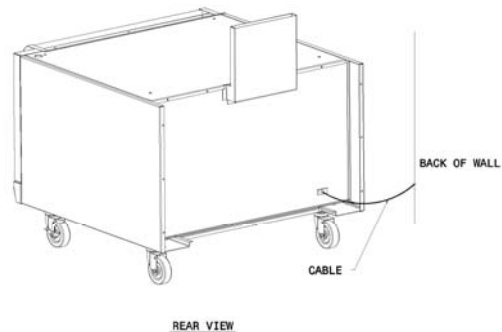

Fig. 1
- 2) Adequate means must be provided to limit the movement of the appliance without depending on the connector and the quick-disconnect device or its associated piping to limit the appliance movement. (see fig. 1)